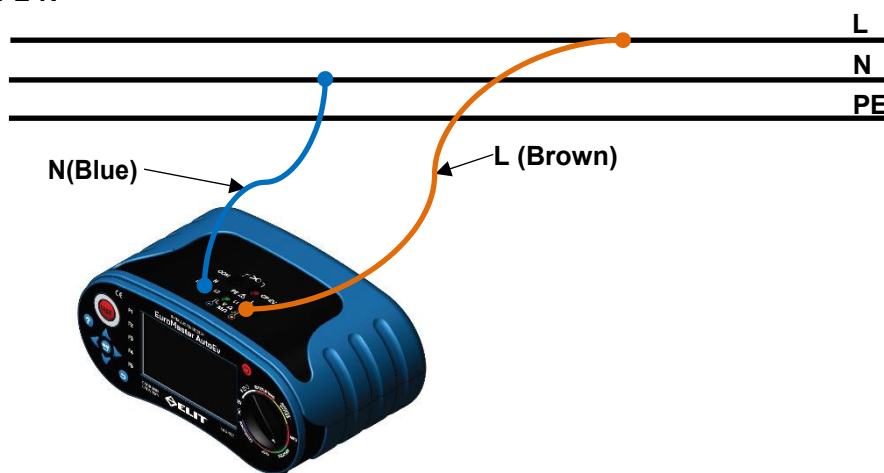

Figure 6.5.7 Z-Line / L-N Connection.
- III. Connect the test leads as shown in Figure 6.5.7.